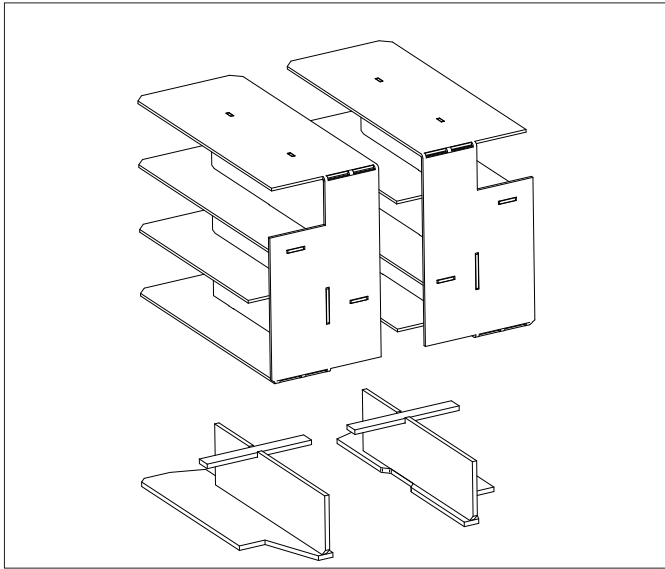

Figure 11-1: Baffles (15/26 model)
2. Remove the baffles as shown in Figures 11-1 to 11-5.
6. Replace the baffles, ensuring they are correctly fitted. Refer to Figures 11-1 to 11-5, as appropriate.